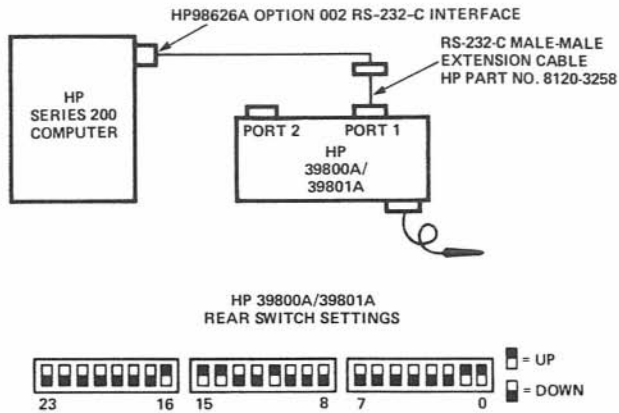

Figure 10-7b.
- Set the switches as shown in Figure 10-7b if connecting the bar code reader to an HP 98626A RS-232C Interface.